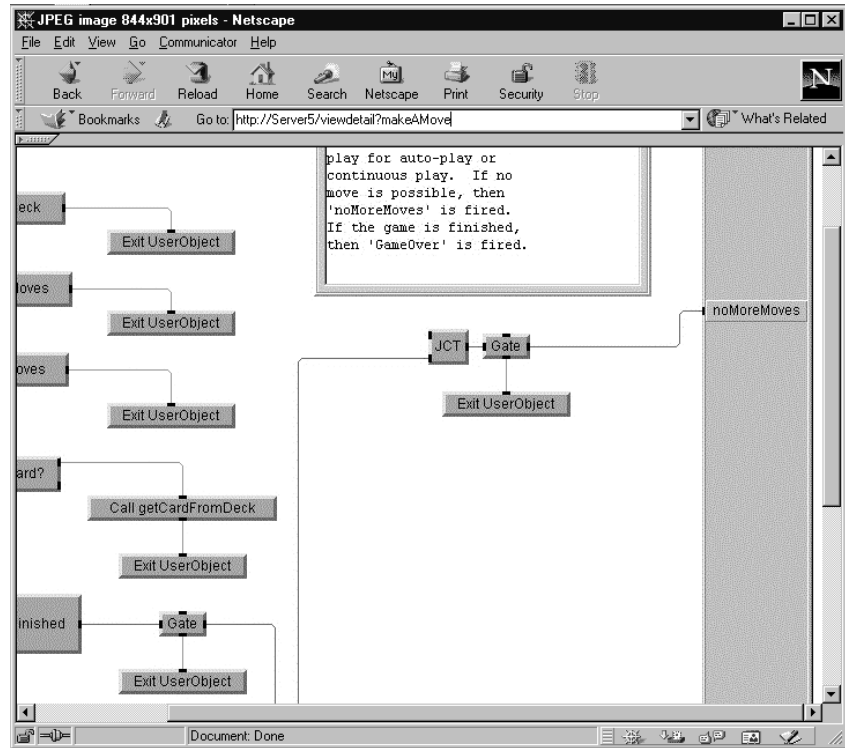

Figure 275 Detail View of a UserFunction Displayed in the Browser
- 6 The remote user goes back to the VEE Web Server Home Page once again and clicks on Detail View of UserFunction, and types in the UserFunction name `makeAMove`. The browser displays the UserFunction `makeAMove` as shown in Figure 275.
The remote user is able to see the error in the VEE program. There is an input pin not connected on the JCT object shown in Figure 275. The remote user could now help you troubleshoot **Solitaire.vee** and resolve the error. Using a similar process of working together over the Web, you could collaborate with remote users or develop programs together.